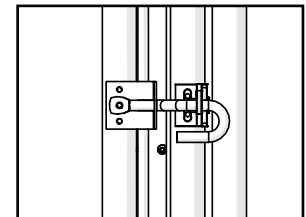

FIG. 4
- c.) Adjust telescoping gate to fit exit opening so that latch hook pin properly engages the catch. (Fig. 4) Tighten set screws at that distance to